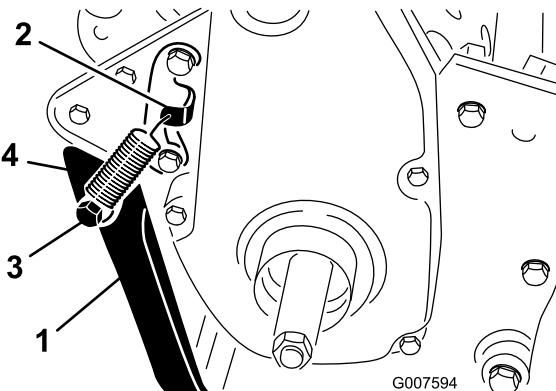

Figure 5
- Hook spring into hole in spring bracket and onto spring retainer while aligning kick stand with mounting holes in rear frame (Figure 5).
- Mount the kick stand to each side of the frame with a bolt, lockwasher, spacer, flat washer and locknut (Figure 5). Position the spacer in the kick stand mounting hole.